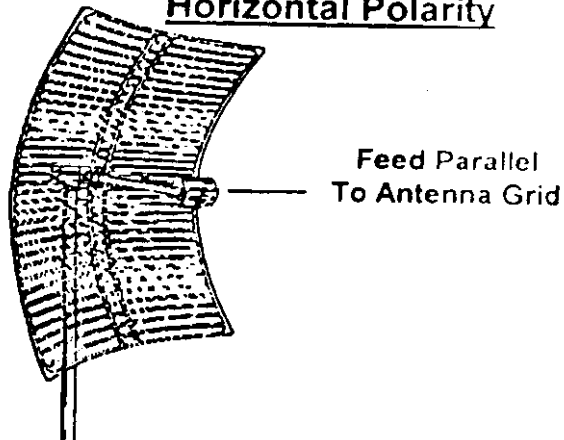

Figure 4
3. Determine the polarity of the antenna. (figure 4 & 5)